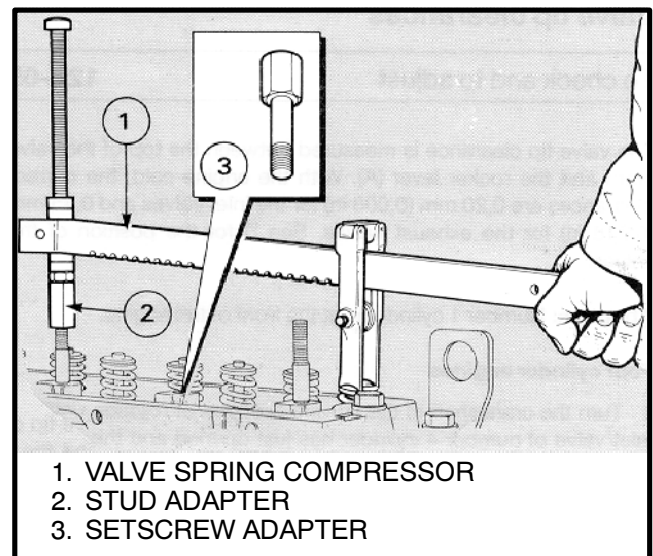

FIGURE 11. VALVE SPRING COMPRESSOR
4. Install the spring compressor and the adapter. See FIGURE 11.